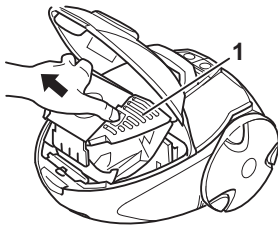

Fig. 17
3. Pull the dust bag holder up and out together with the dust filter bag (Fig. 17/1), as shown.